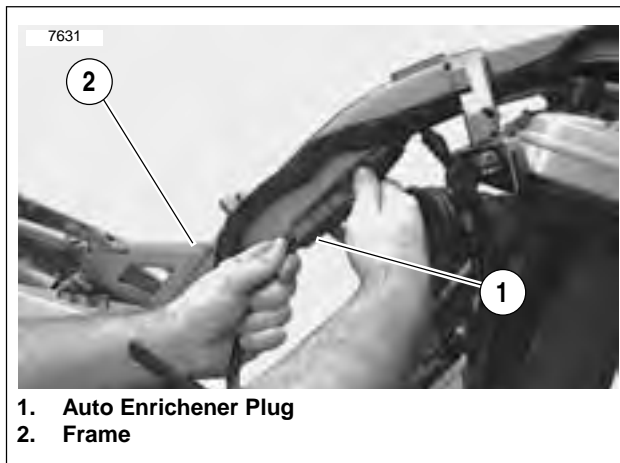

Figure 3-34. Auto Enrichener Plug
- 20. See Figure 3-34. Connect auto enrichener plug.